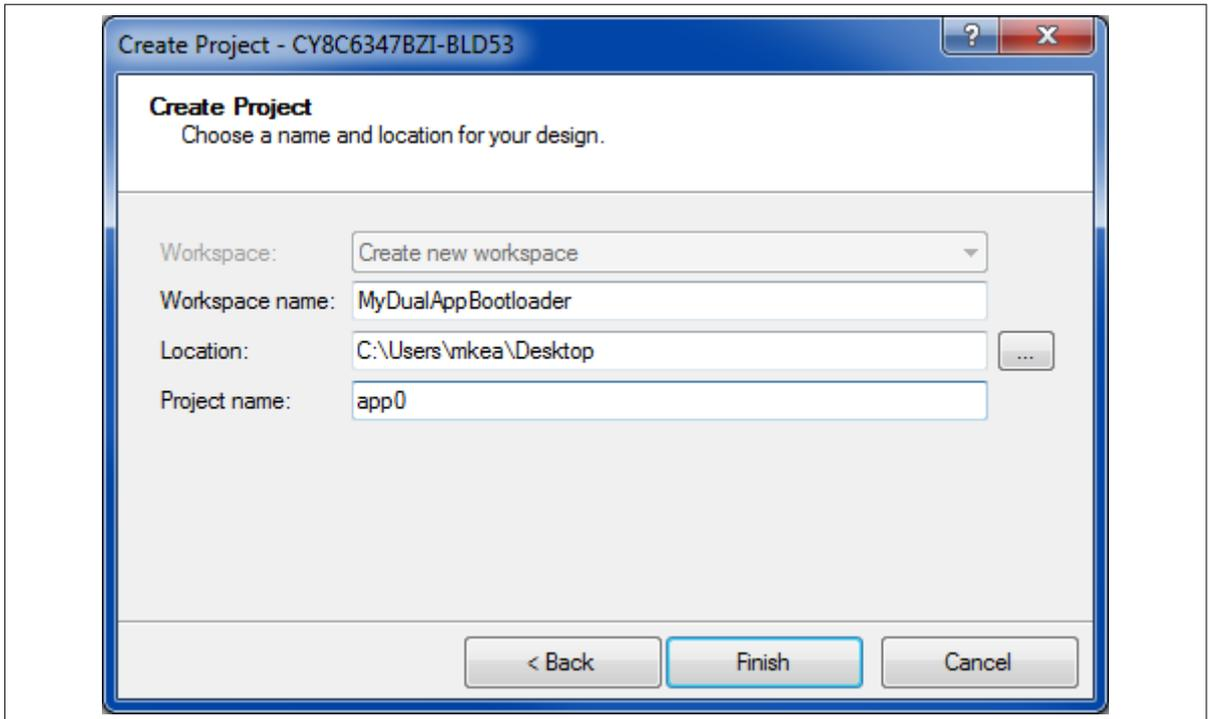

Figure 29 PSoC Creator create dual-application bootloader App0
1. Create App0 and the workspace, as Figure 29 shows